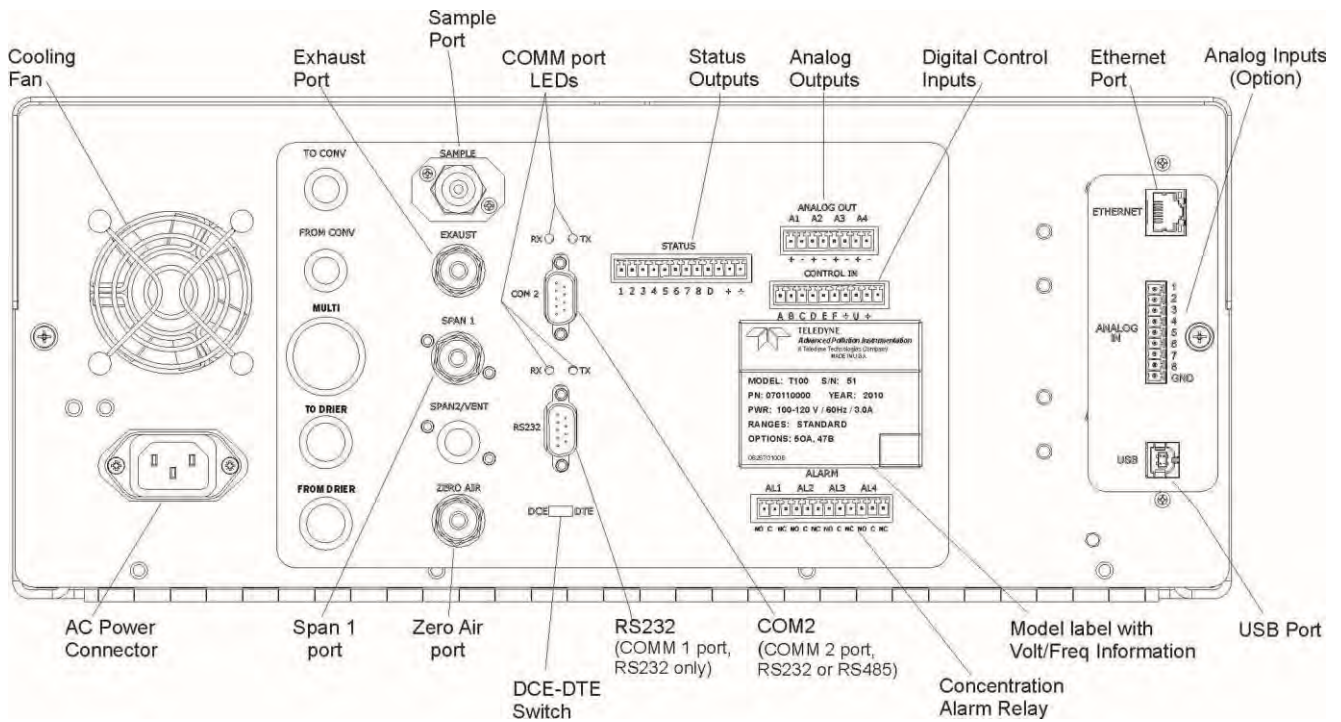

Figure 3-20: Rear Panel Layout with Z/S Valve Options (OPT 50A)
**SPAN GAS** Attach a gas line from the source of calibration gas (e.g. a Teledyne API's T700 Dynamic Dilution Calibrator) to the **SPAN1** inlet (see Figure 3-20). Use PTFE tubing; minimum O.D ¼".